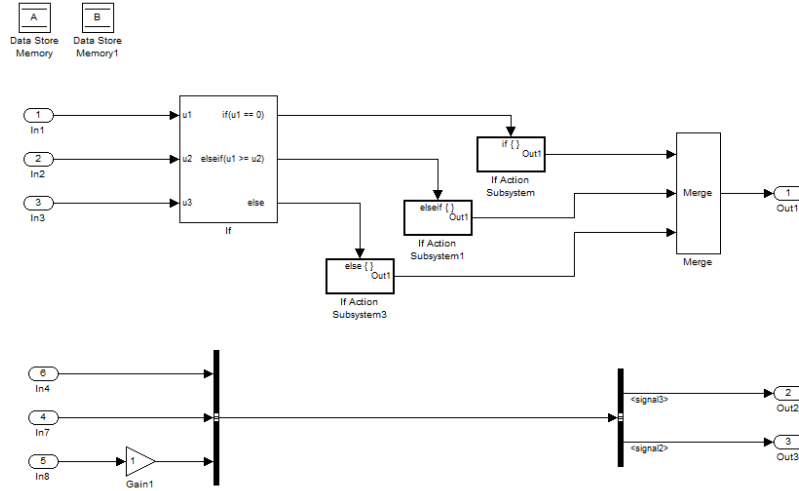

Figure 3: Reach/Coreach demo model.
Use the command `ReachCoreachDemo` in the Simulink command window to open the example model, shown in Figure 3. This example has control and data flow pass through Data Stores, If and If Action subsystems, as well as a Bus Creator and Bus Selector. The following steps will demonstrate the various functionalities of the tool.
2. To clear the highlighting now present in the model due to the previous reach operation, right-click anywhere in the model and select the `Clear Reach/Coreach` option. This will revert the model's appearance to that of Figure 3.